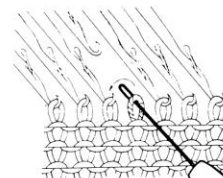

Fig.50-4
- d) Lift the 'eye' of the transfer tool out of the needle hook and place it into the hook of the next needle. (Fig.50-4)